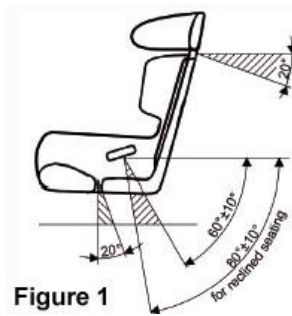

Figure 1
All harness belts must be installed based on the instructions provided by the harness belt manufacturer. Figure 1 details the recommended installation angles of each harness belt anchor point based on the latest testing completed by the FIA.
1. The lap belts must be mounted rearward of the pelvis, between two lines drawn at 60 degrees and 80 degrees, below the horizontal (see Figure 1).
3. The shoulder harness must be mounted at an angle of 0 degrees to 20 degrees from the horizontal plane measured from the top of the shoulder or the top of the HANS (see Figure 1). In no case shall the shoulder harness be mounted above the horizontal at shoulder height.